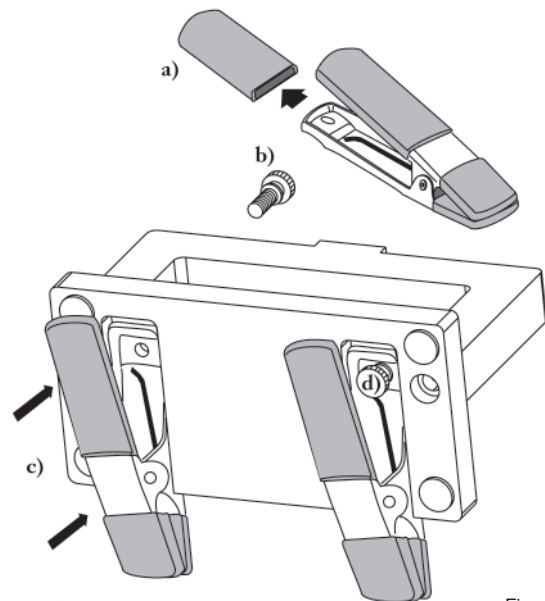

Figure 4
4.3 The BTF Assembly Platform can be configured for clamp-on use suitable for most manufacturers' termination hardware with two additional BTF clamps. To convert the platform for clamp-on use (Figure 4):